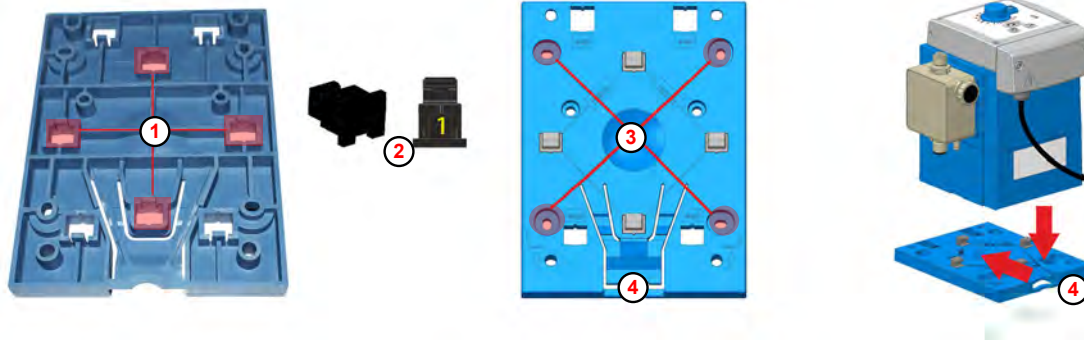

Fig. 4: Preparations for table mounting
On the underside of the mounting plate, the boreholes for countertop mounting (Fig. 4 , ①) are marked with a 1.